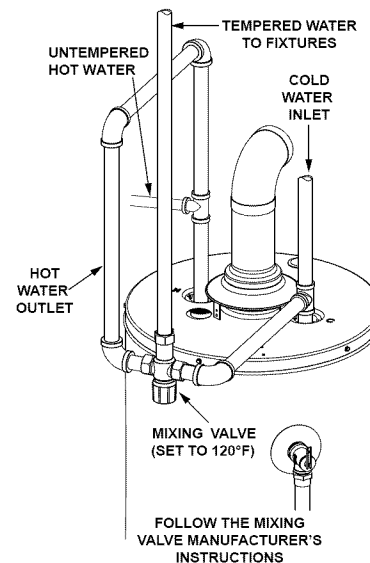

FIGURE 23.
3. The manufacturer of this water heater recommends installing a mixing valve or an anti-scald device in the domestic hot water line as shown in Figure 23. These valves reduce the point-of-use temperature of the water by mixing cold and hot water and are readily available for use.
HOTTER WATER CAN SCALD: Water heaters are intended to produce hot water. Water heated to a temperature which will satisfy space heating, clothes washing, dish washing, and other sanitizing needs can scald and permanently injure you upon contact. Some people are more likely to be permanently injured by hot water than others. These include the elderly, children, the infirm, or physically/mentally handicapped. If anyone using hot water in your home fits into one of these groups or if there is a local code or state law requiring a certain temperature water at the hot water tap, then you must take special precautions. In addition to using the lowest possible temperature setting that satisfies your hot water needs, a means such as a mixing valve should be used at the hot water taps used by these people or at the water heater. Mixing valves are available at plumbing supply or hardware stores. See Figure 23. Follow manufacturer's instructions for installation of the valves. Before changing the factory setting on the thermostat, see Figure 28. Using the lowest hot water temperature that meets your needs will also provide the most energy efficient operation of the water heater.